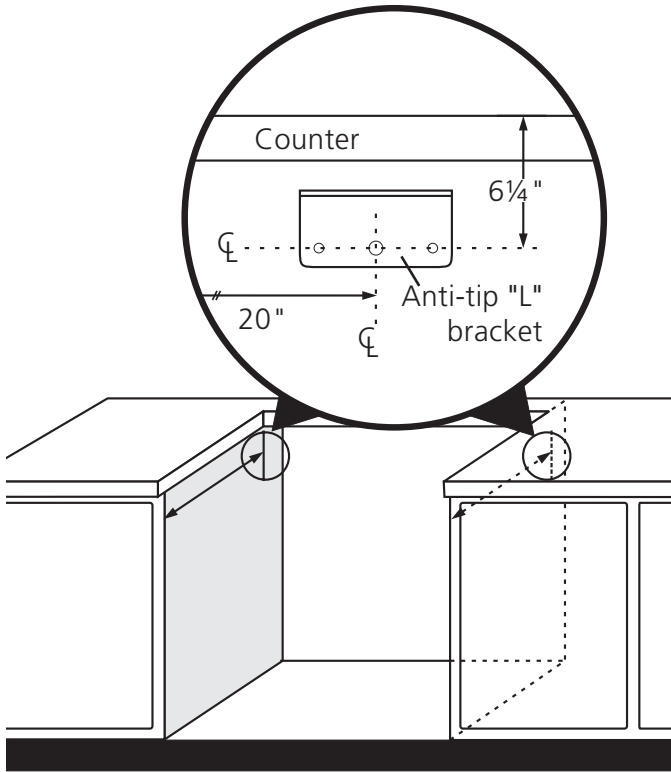

Figure 7
- Install the anti-tip cabinet "L" brackets as shown on Figure 7, one on each side.